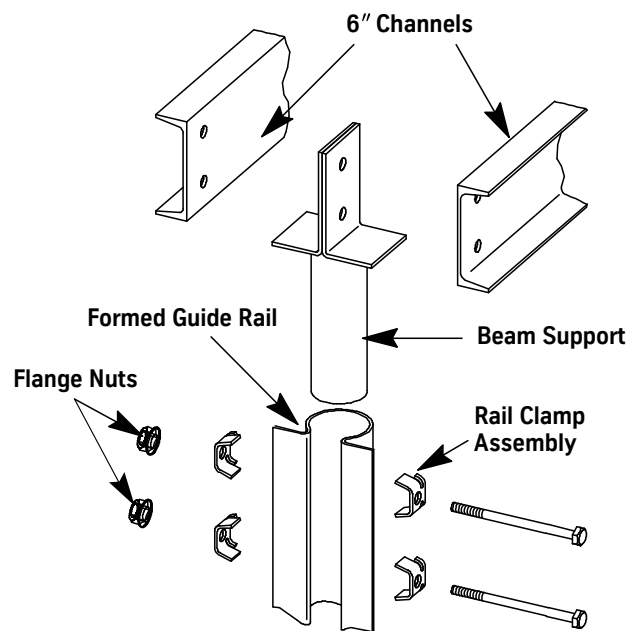

Figure 5 - Support Beam Mounting
9. Install support beam mounting assembly for hoisting and setting the jack. See Figure 5.